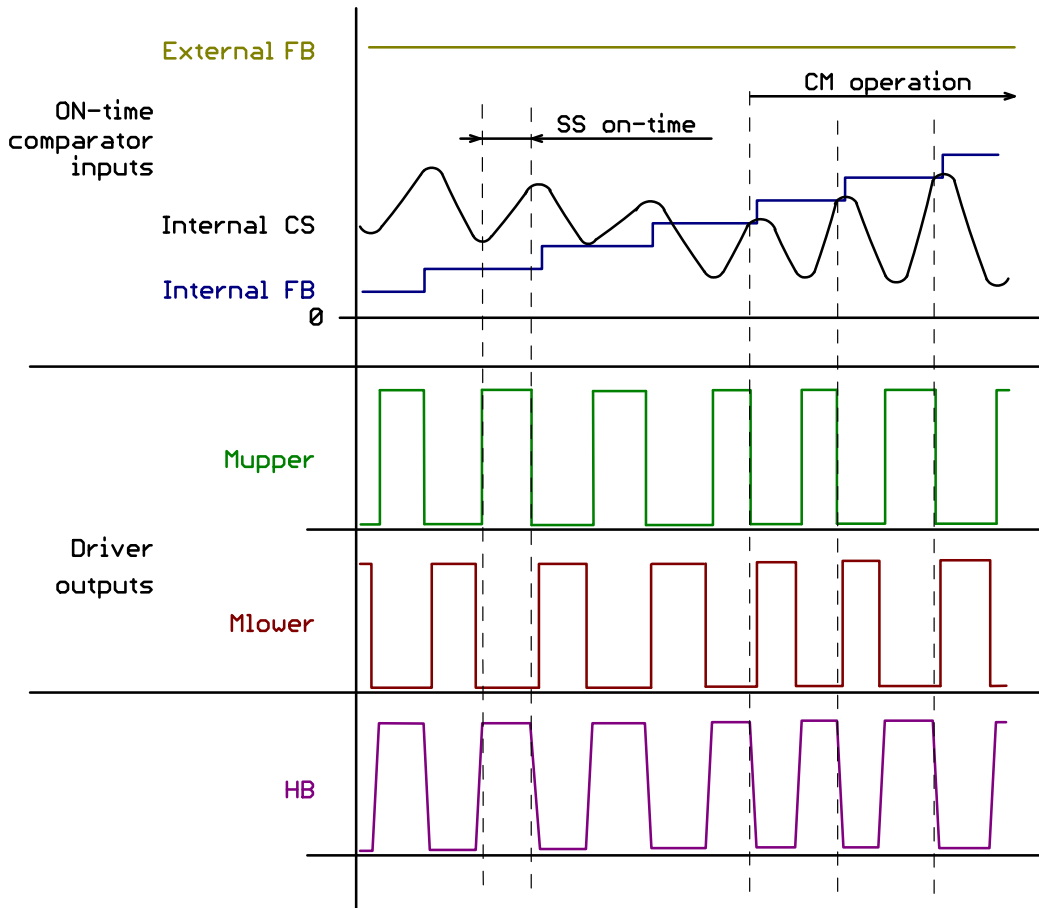

Figure 45. Soft Start Behavior
5. The *Soft-Start D/A converter* generates a soft-start voltage ramp for ON-time comparator input synchronously with Soft-Start counter incrementing. The internal FB signal for ON-time comparator input is artificially pulled-down and then ramped-up gradually when soft-start period is placed by the system – refer to Figure 45. The FB loop is supposed to take over at certain point when regulation loop is closed and output gets regulated so that soft-start has no other effect on the on-time modulation. The Soft-Start counter continues counting-up until it reaches its maximum value which corresponds to the IC maximum on-time value – i.e. the IC minimum operating frequency. The Soft-Start period is terminated (i.e. counter is loaded to its maximum) when the FB pin voltage drops below $V_{FB_SKIP_IN}$ level. The D/A converter output evolve accordingly to the Soft-Start counter as it is loaded from its output data bus.